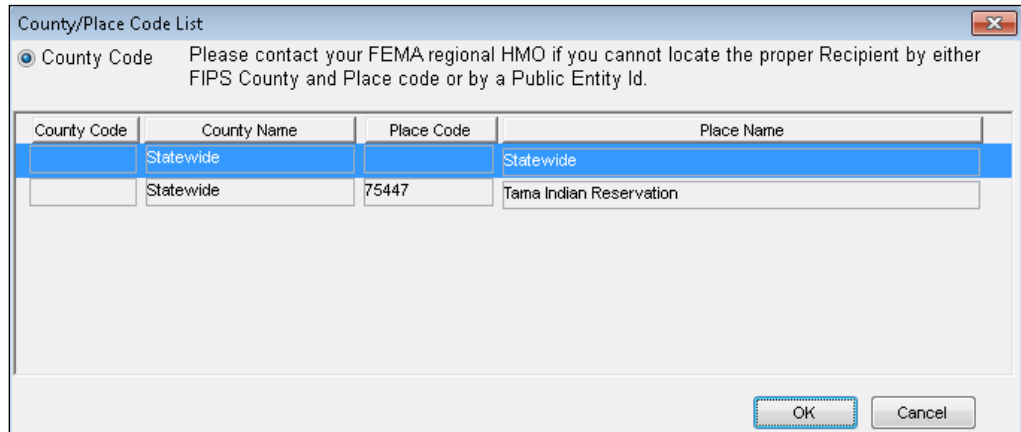

Figure 3-23: County/Place Code List
- b. Click the UPDATE ID button. A table for selecting the county or place identification code is displayed (Figure 3-23).